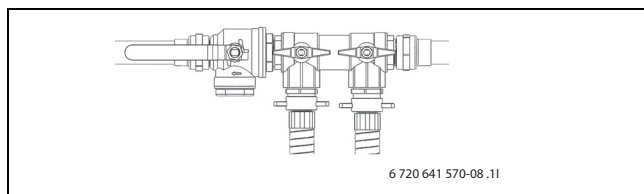

Fig. 31 Filling units in normal position
- Turn the valves of the filling unit to normal position (→ Figure 31) and turn off the pump on the filling station.